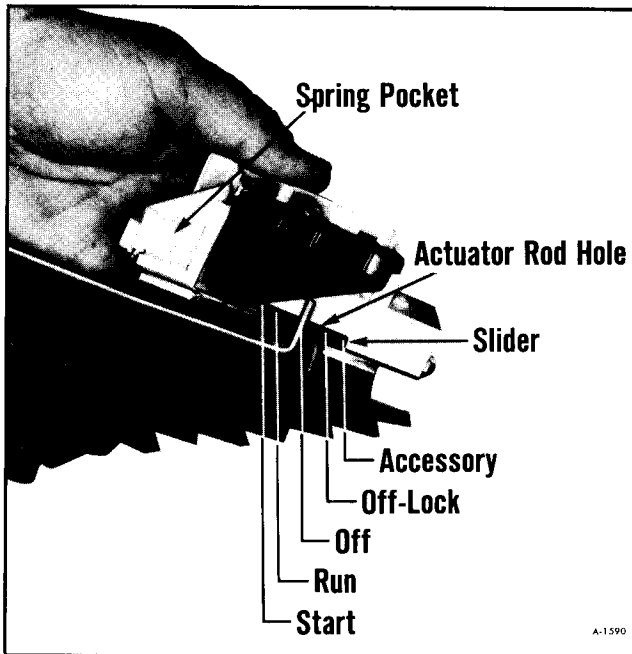

Figure 96—Installing Ignition Switch
A. Position the switch as it is shown in Figure 96.